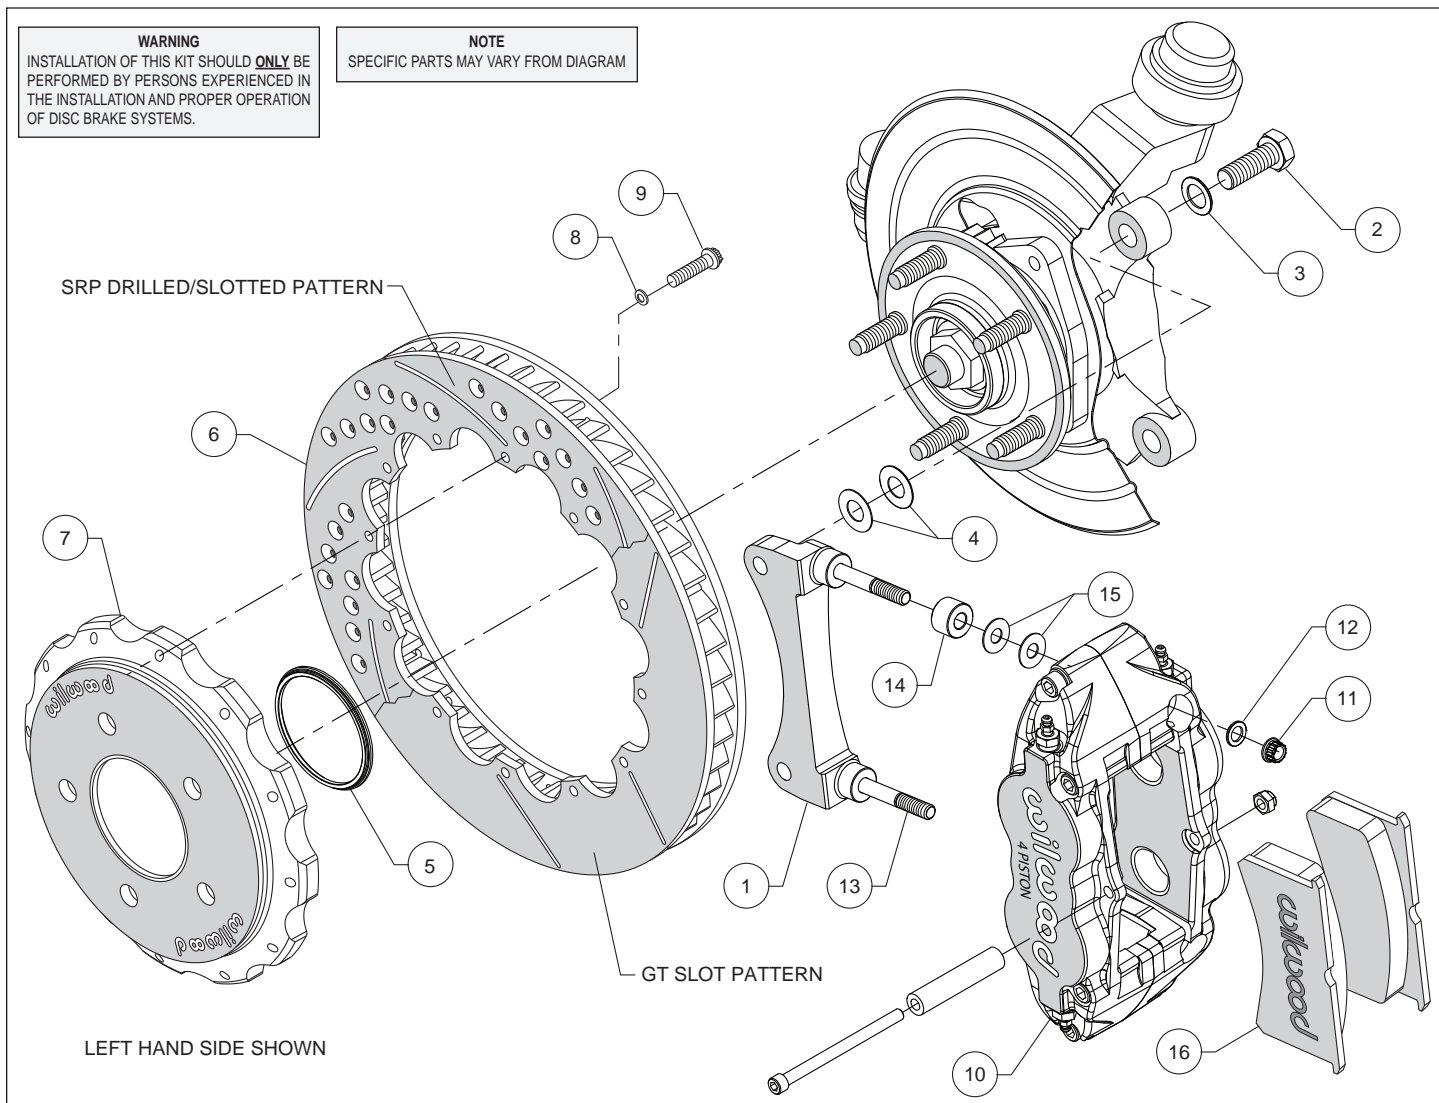
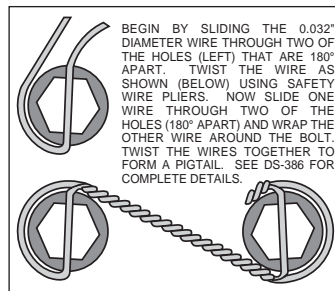

Figure 1. Typical Installation Configuration
Figure 3. Safety Wire Diagram
Assembly Instructions (numbers in parenthesis refer to the parts list and Figure 1 on the preceding pages):
- The caliper mount bracket (1) should initially be installed with clean, dry threads on the mounting bolts. Orient the bracket as shown in Figure 1 and Photo 1 and install using mount bolts (2) and washers (3). Initially place two .029" thick shims (4) on each bolt between the bracket and upright, Figure 1. Temporarily tighten the mounting bolts. **NOTE:** *The bracket must fit squarely against the mount bosses on the upright.* Inspect for interference from casting irregularities, machining ridges, burrs, etc. Later, after the caliper alignment has been checked, the mount bolts will be secured using red *Loctite*® 271.
- Orient the rotor (6) and the hat (7) as shown in Figure 1 and Photo 2. Attach rotor to hat using bolts (9) and washers (8). Using an alternating sequence, apply red *Loctite*® 271 to the threads, and torque to 155 **in-lbs**. For an added measure of security, the bolts may be safety wired using standard 0.032 inch diameter stainless steel safety wire as shown in Figure 3. Please refer to Wilwood's data sheet DS-386 (available at www.wilwood.com/Pdf/DataSheets/ds386.pdf) for complete safety wire installation instructions.
- Lubricate the caliper mounting studs (13) with lightweight oil. Initially place two .035" thick shims (15) and one spacer (14) on each stud as shown in Figure 1 and Photo 7. Mount the caliper (10) onto the bracket (1) using lock nuts (11) and washers (12), Figure 1. Temporarily tighten the lock nuts and view the rotor through the top opening of the caliper. The rotor should be centered in the caliper, Photo 8. If not, adjust by adding or subtracting shims (4) between the bracket and the upright. Always use the same amount of shims on each of the two mounting bolts. Once the caliper alignment is correct, remove the bracket mounting bolts one at a time, apply red *Loctite*® 271 to the threads, and torque to 75 ft-lb.